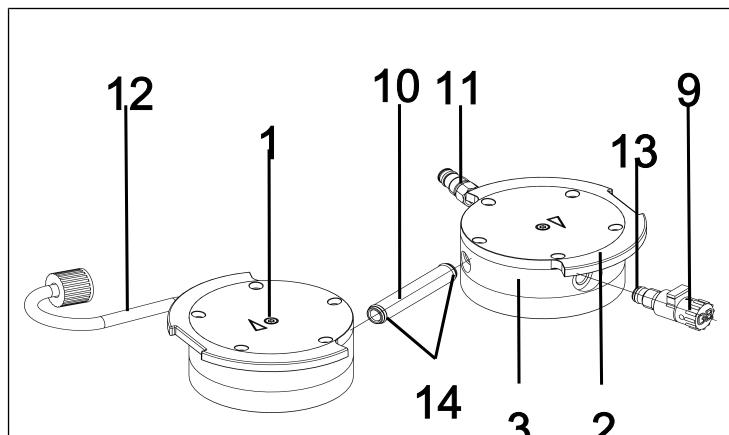

Fig.15: Change O-rings
2. Pull the connection tube (10/Fig. 15) out of the head plate (3).
3. Replace the two O-rings (14) on the connection tube (10/ Fig. 15).
4. Loosen the internal head screw (1) on both pump heads.
5. Remove the two pressure plates (2) together with the two internal head screws (1).
6. Unscrew the gas ballast (9/Fig. 15) from the head plate (3).
7. Replace the O-ring (13) on the gas ballast (9/Fig. 15).
8. Screw the gas ballast (9/Fig. 15) into the corresponding head plate (3) as far as it will go. Then turn it back again until the surface is oriented upwards.
6. Dispose of the replaced valve plates/seals (4) properly.
7. Insert the connection tube (10/Fig. 15) back into both head plates (3).